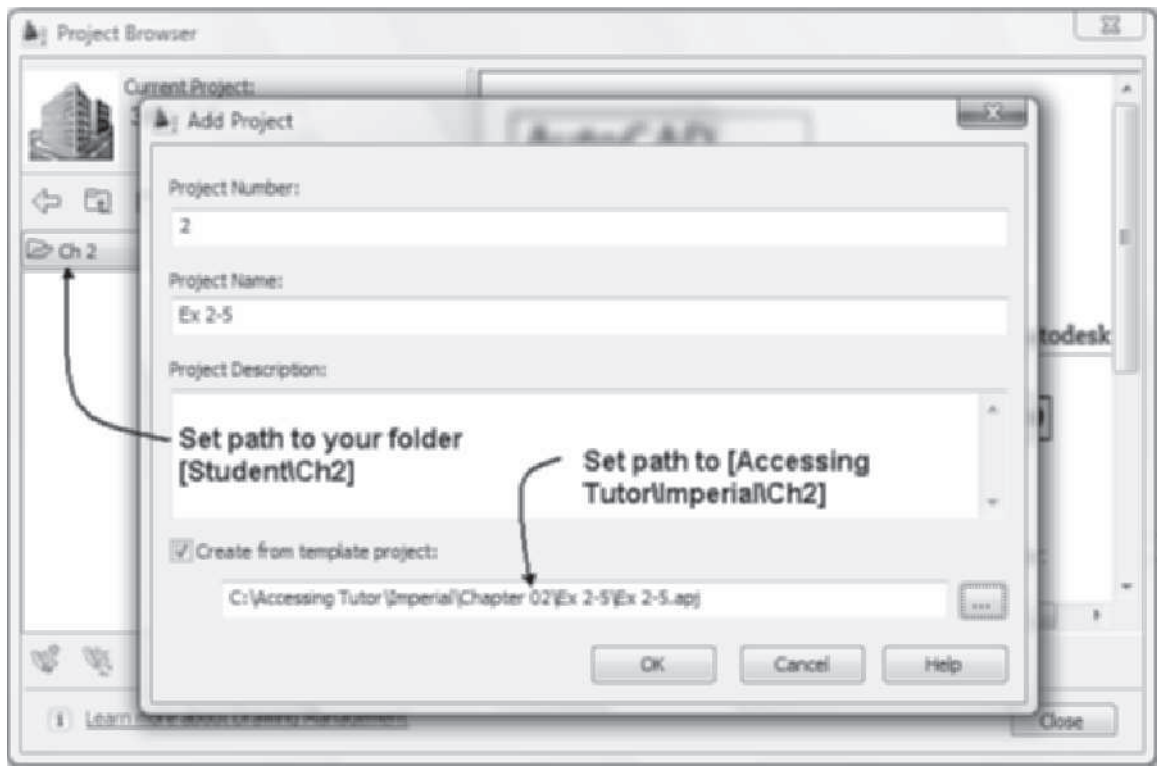

FIGURE 2.64 Creating the Ex 2-6 project
2. Open AutoCAD Architecture 2011, and verify that a drawing is open. Select **Project Browser** from the Quick Access toolbar. Use the Project Selector drop-down list to navigate to your *Student\Ch2* directory, as shown in Figure 2.64. Select **New Project** to open the **Add Project** dialog box. Type **2** in the **Project Number** field, and type **Ex 2-6** in the **Project Name** field as shown in Figure 2.64. Check **Create** from template project, choose **Browse**, and edit the path to *Accessing Tutor\Imperial\Ch 2\ Ex 2-6 \Ex 2-6.apj* [Accessing Tutor\Metric\Ch 2\Ex 2-6\Ex 2-6.apj] in the **Look in** edit field. Choose **Open** to close the **Select Project** dialog box. Choose **OK** to dismiss the **Add Project** dialog box. Select **Close** to dismiss the Project Browser.